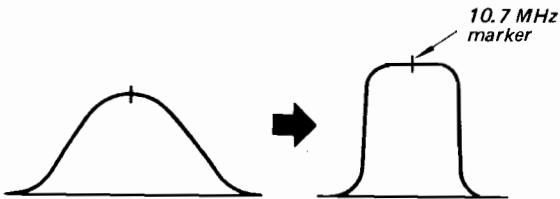

Fig. 3-5
2. Turn the core of fm i-f transformer (IFT F101) and discriminator transformer (IFT F202) to obtain the maximum amplitude response curve shown in Fig. 3-5.